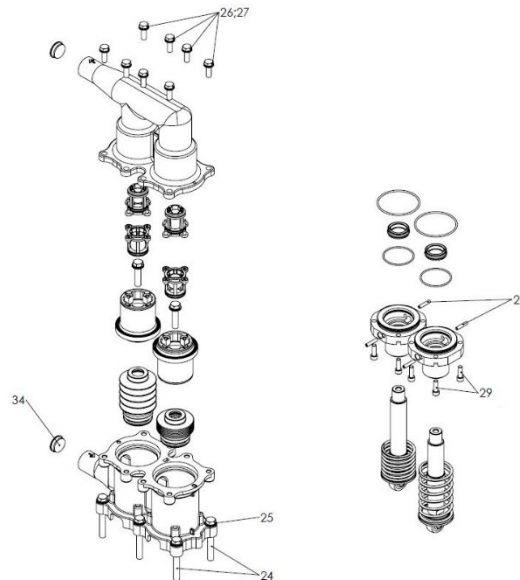

Fig. 10-1: Dismounting the entire pump unit
6. Dismount remaining components according to exploded-view drawing (Fig. 10-1: Dismounting the entire pump unit).